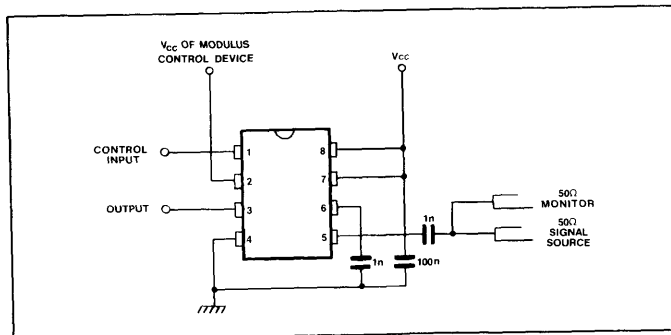

Fig.6 Toggle frequency test circuit
2. The test configuration for dynamic testing is shown in Fig.6.